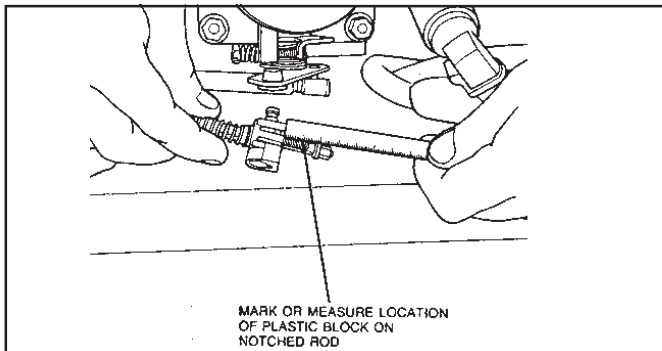

Figure 26
7.10 Mark or measure location of plastic block on notched rod. (See Fig. 26.)